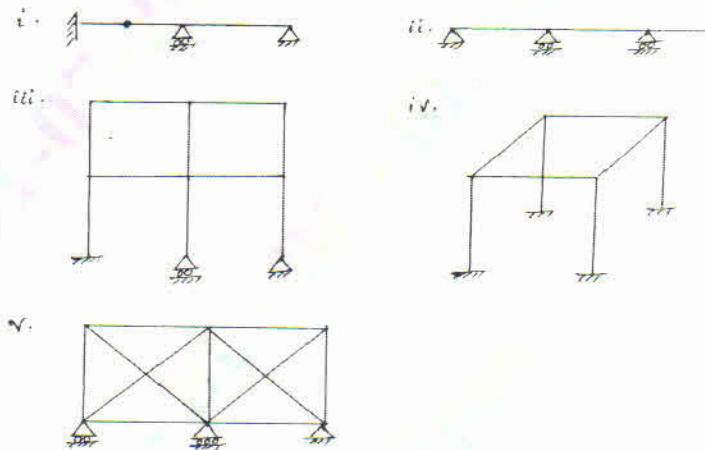

Fig.Q1(a)
- 1 a. Determine the static and kinematic indeterminacy for the following structures, shown in Fig.Q1(a). (10 Marks)